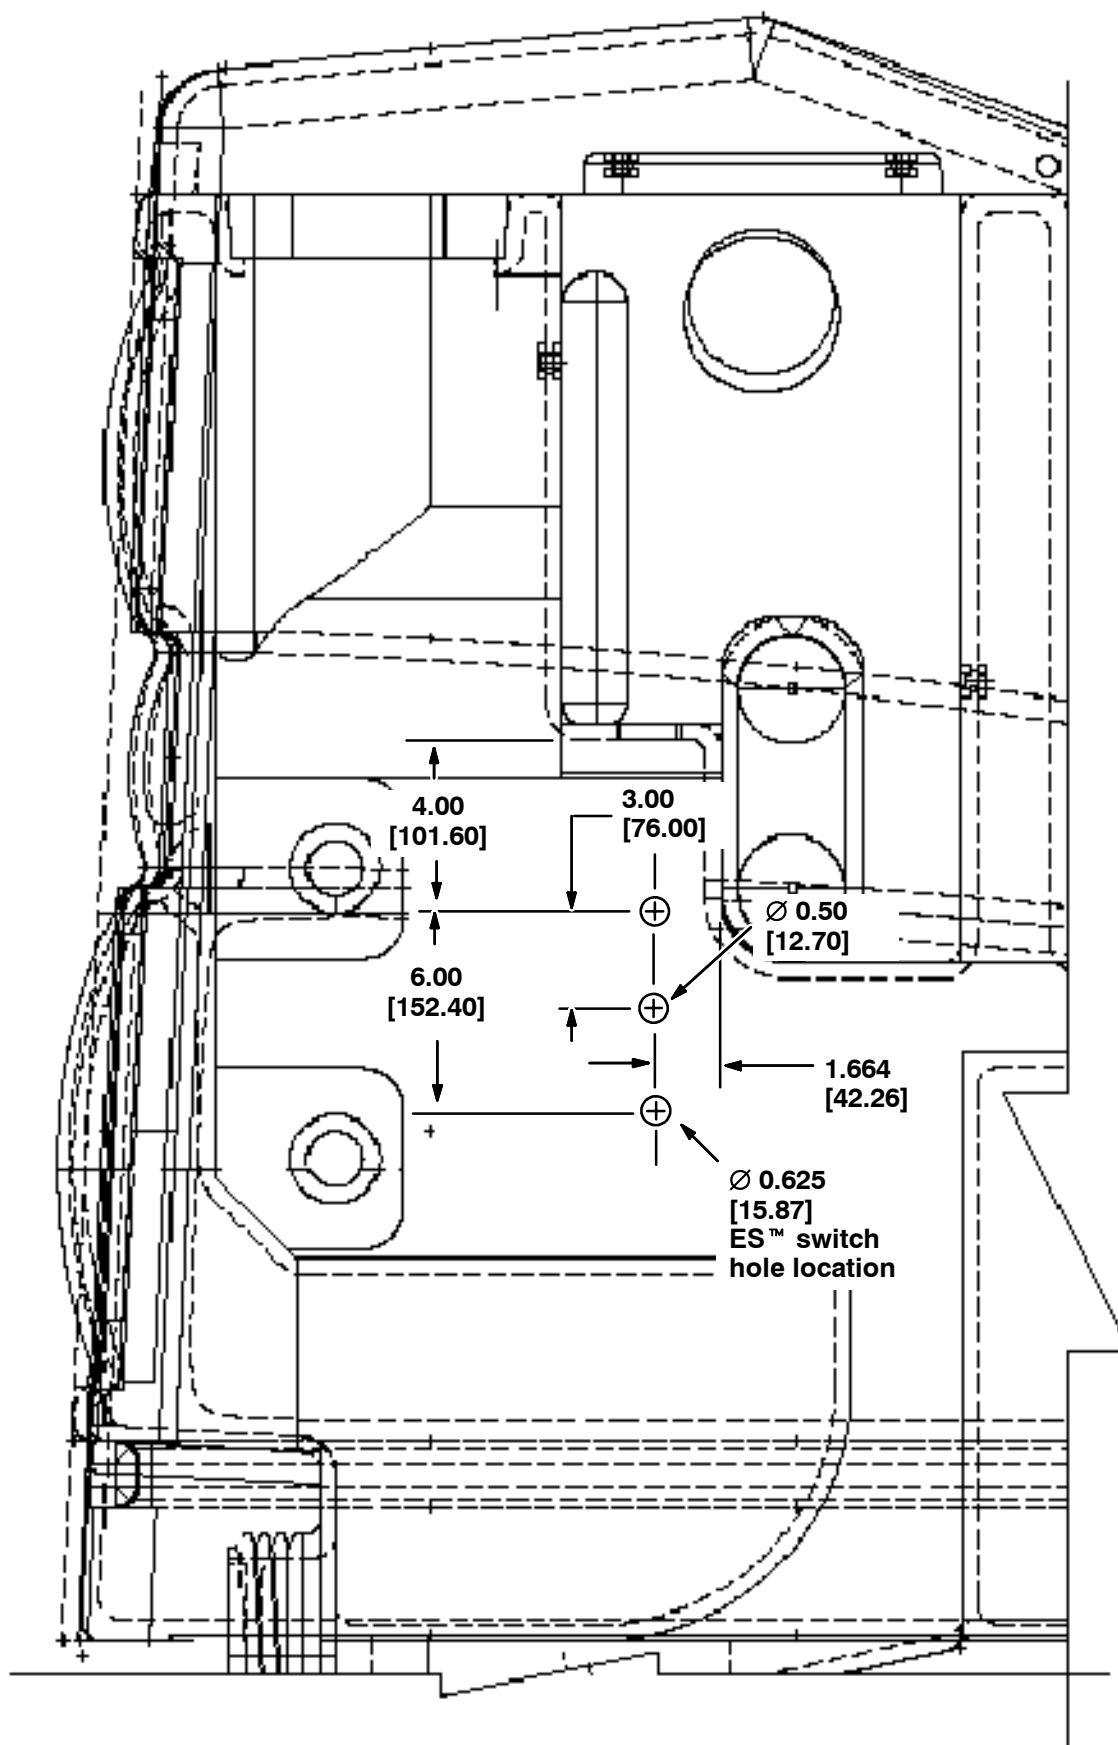

FIG. 6 - Tank Rework / Hole Location
3. **Machines equipped with the 14" pressure tube switch (375427) and 2" tube assembly (385750):** Measure and mark the location for the new liquid level sensor (1). Refer to Fig. 6.
4. **Machines equipped with the 14" pressure tube switch (375427) and 2" tube assembly (385750):** Drill a 5/8" (0.625") hole into the point marked in the previous step. Clean the rough edges from the hole. Refer to Fig. 6.